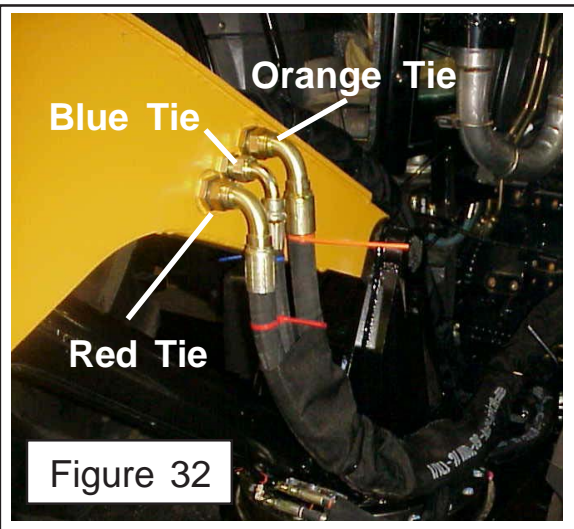

Figure 32
12. Reinstall the boom hoses if they were disconnected, make certain all hoses are connect to the correct fittings. See parts and/or assembly manuals for hydraulic schematics (See Figure 32 for motor hose connections to boom).